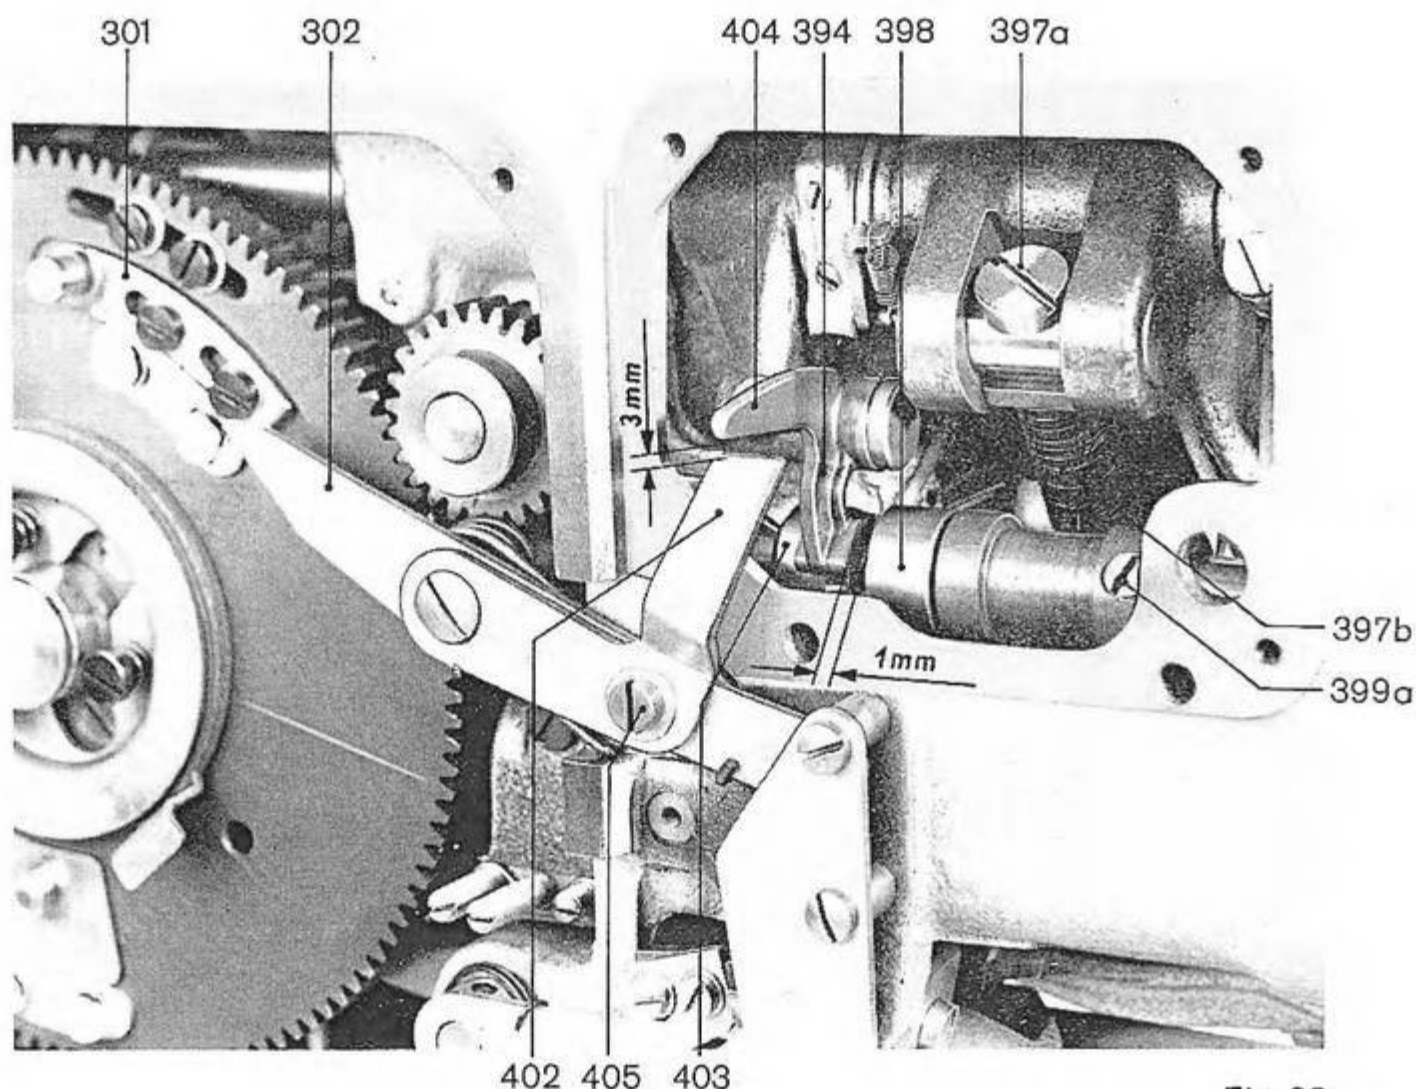
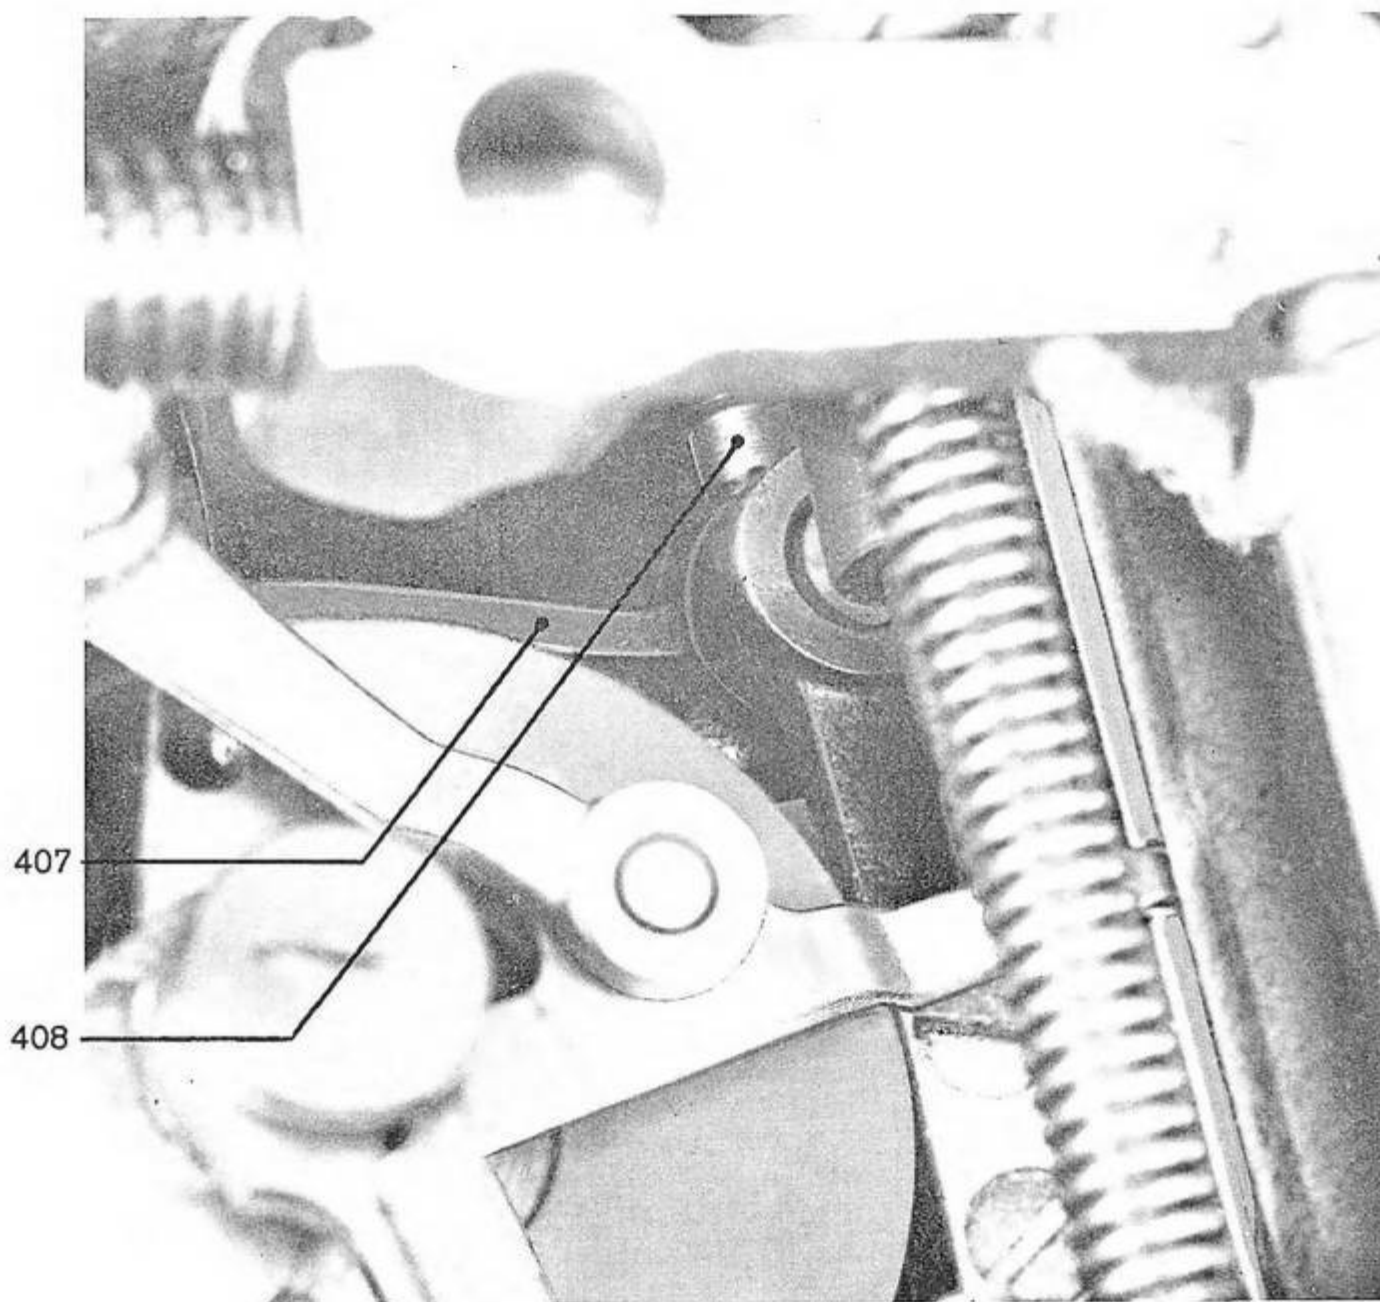

Fig. 92
Fig. 93
When the threaded jaw has dropped into the worm, the upper shaft makes still $5 \frac{1}{4}$ revolutions before the machine stops. The ratchet lever 394 must drop into the slot 395 of the tappet 393 already after the second or third revolution of the clutch disk (counted from the moment when the threaded jaw has dropped into the worm). Whether two or three revolutions of the clutch disk are required depends on the position of the tappet 393 (fig. 9). The switch ring 403 (fig. 92) has now travelled to the rear.
The lever 396 (fig. 91) is thus linked with the lever 397, the motion of the lever 397 is transmitted to the lever 396 and to the shaft 344 (fig. 65) and the knife 130 (fig. 27) moves downwards. When continuing to turn the clutch disk, the ratchet lever 394 (fig. 92) is lifted and the spring loaded ring 398 is moved to the gear under the lever 394. When the lever 394 is moved backwards, it rests on the ring 398 and is pulled out of the groove 395 (fig. 91) of the tappet 393. By the spring action, the knife 130 (fig. 27) is returned to its neutral position.
In the position, in which the control cam has been removed, the distance between the l/h edge of the tripping ring 398 (fig. 92) and the r/h edge of the ratchet lever 394 should amount to at least 1 mm. This distance can be set by turning the stop screw 401 after having loosened the counter nut 400 (fig. 65).
When the safety lever 402 (fig. 92) is properly adjusted, the buttonhole knife will only act if the fabric under the cloth presser frame is placed in such a way that the knife can freely travel downwards.
Turn the clutch disk until the machine is in the position in which the roller elbow 301 has left the scissors control lever 302. In this position, i.e. when the lever 394 rests on the left tripping ring 403, the distance between the shaft 404 of the lever 394 and the safety lever 402 should amount to at least 3 mm. See fig. 92.
Remove the cover 399 (fig. 65) and the arm cover 311 (fig. 63). Engage the machine by hand and check — by turning the clutch disk in the direction of rotation — whether the distance between the locking lever 406 (fig. 91) and the ratchet lever 394, resting on the left tripping ring 403 (fig. 92) amounts to at least 1 mm. See fig. 91. When checking this adjustment, the knife bar control lever 407 (fig. 93) should be in contact with its stop screw 408 in the head, i.e. the knife bar should be in its topmost position. For setting the ratchet lever 394 (fig. 91) with respect to the locking lever 406, turn the screws 410 after loosening the thumb screws 409.
Exchanging the cup springs on the traction bar 397a (fig. 92)
3. After loosening its fastening screws and the screw 399a (fig. 92) advance the axle 307c so that the traction bar 397a (figs. 92 and 92a) – after being turned out of the bearing 398a – can be removed from the machine.